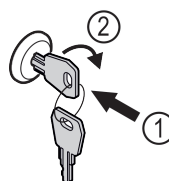

Fig. 102 Example illustration
- Insert key Fig. 102 (1).
- Turn key clockwise by 90° *Fig. 102 (2)*.